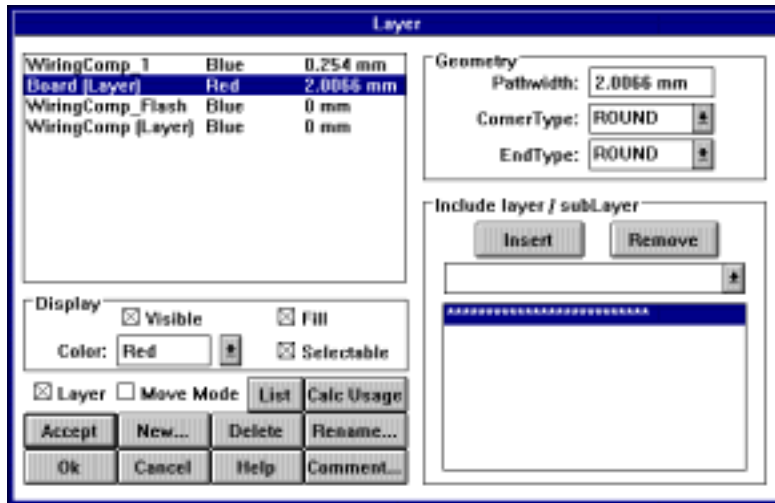

Figure 3. Layer Window
- a) Open the Layer dialog window by selecting *Edit-Layer...* In the top left box within this window (see Figure 3), there is a short list of layers and sub-layers with names like WiringComp1. Click 'New..' and in the Identifier box that pops up, highlight 'Board' and click OK.